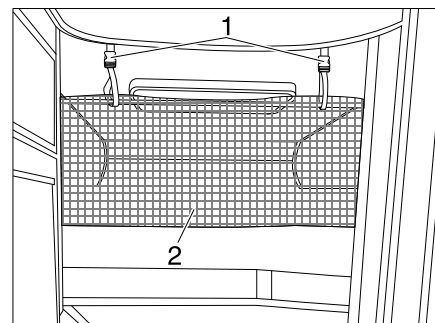

Fig. 170 Safety net
The safety net (Fig. 170, 2) is stored as standard between the mattress and slatted frame. Do not use the safety net until the person is already in bed.
- Fasten the retaining straps (Fig. 170, 1) to the holders on the ceiling.
The safety net (Fig. 170,2) is stored as standard between the mattress and slatted frame. Do not use the safety net until the person is already in bed.
- Fasten the retaining straps (Fig. 170,1) to the holders on the ceiling.